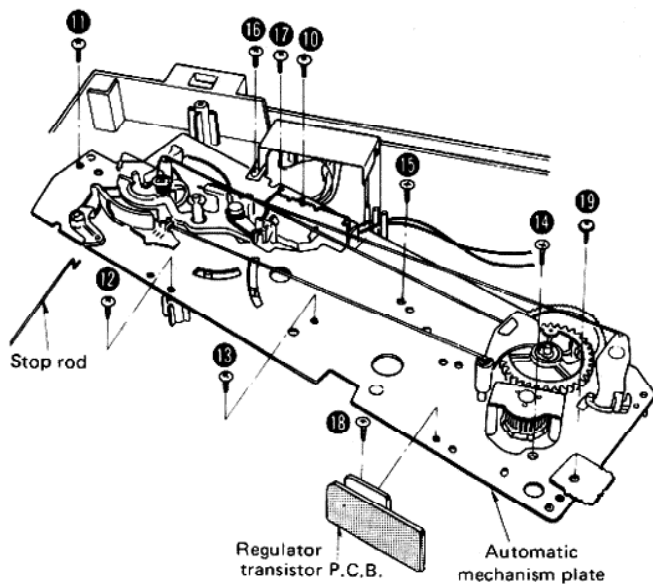

Fig. 3
2. Remove the 6 setscrews (Fig. 3: ⑩ ~ ⑮) of the automatic mechanism plate, the setscrew ⑯ of the output terminal shielding plate, the setscrew ⑰ of the earth terminal, the setscrew ⑱ of the regulator transistor P.C.B. and ⑲ of the earth circuit P.C.B. (Fig. 3).